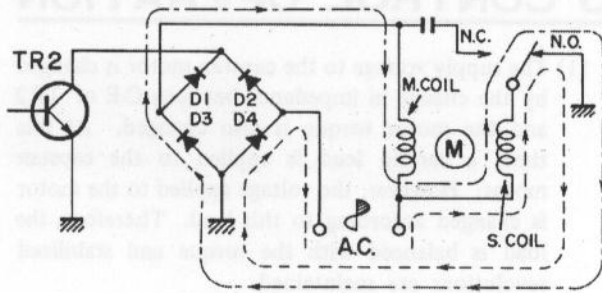

Fig. 37
- 3) When the relay functions, the capstan motor sub coil is grounded, and an A.C. half wave flows as shown in the Fig. 37. The current within the negative half wave does not flow to Diode D4. The power generated at the sub coil passes the D3→main coil→sub coil closed circuit as shown in the Fig. 37. Consequently, a D.C. magnetic field is formed and braking is applied to the rotor of the motor.